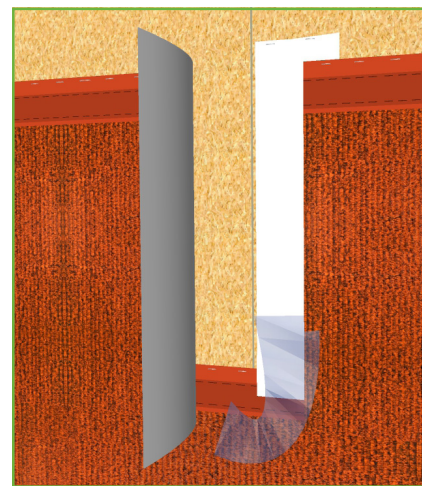

Figure 1.
- Place butted joint of WrapShield RS at the middle of the VaproFlashing SA, Figure 1.
- Remove the release film from VaproFlashing SA, Figure 1.